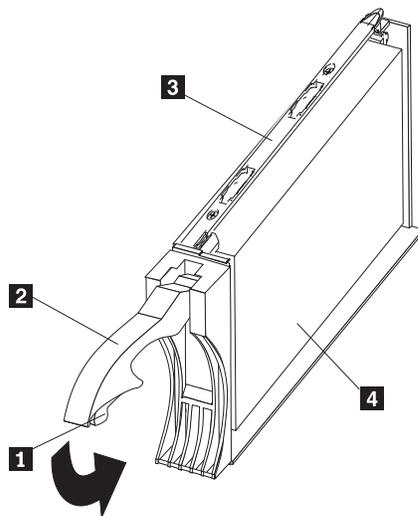

Figure 52. Drive latch on a hot-swap drive
- a. Press on the inside of the bottom of the tray handle to release the blue latch **1**. See Figure 52.